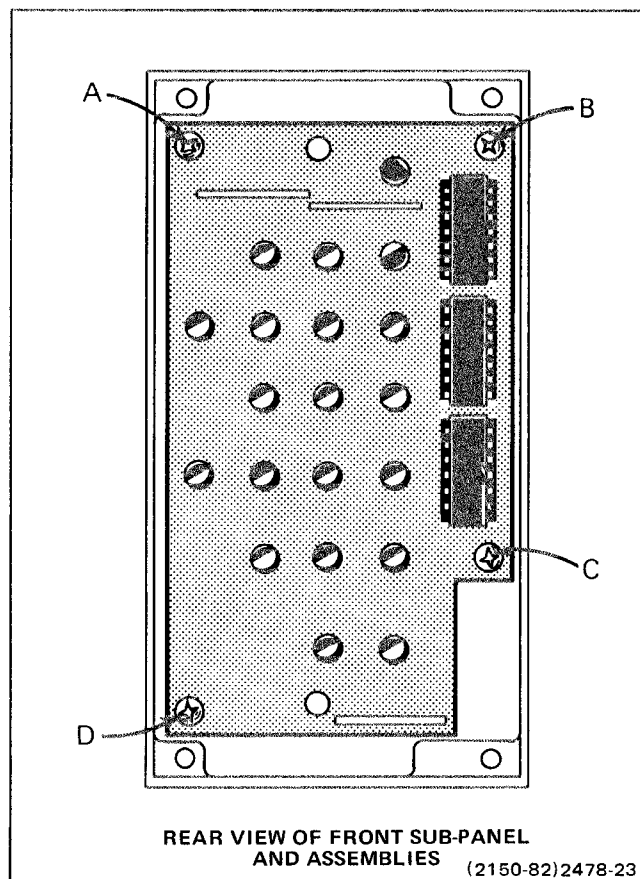

Figure 6-6. Locations of securing screws on A2 Button Lights circuit board.
4. Remove 4 screws (A, B, C, and D on Fig. 6-6) from Button Lights circuit board. Carefully lift board away from sub-panel assembly.